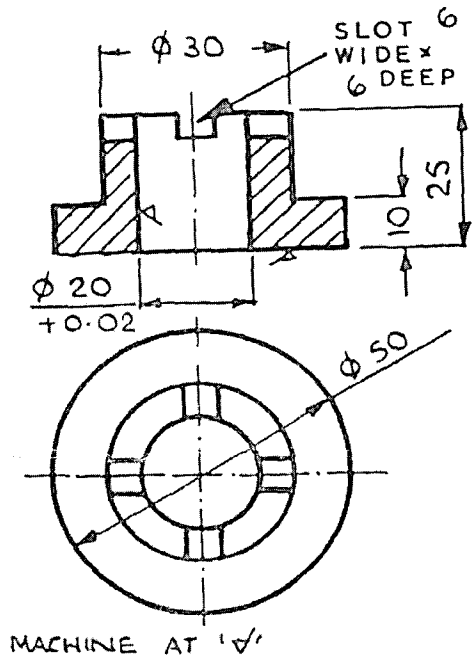

Fig. 1
Q.2 Explain with suitable sketch pump and sandwich jigs. (10)
Q.3 Design a milling fixture for the component shown in Fig. 1 for milling of a slot 6 mm wide. (10)